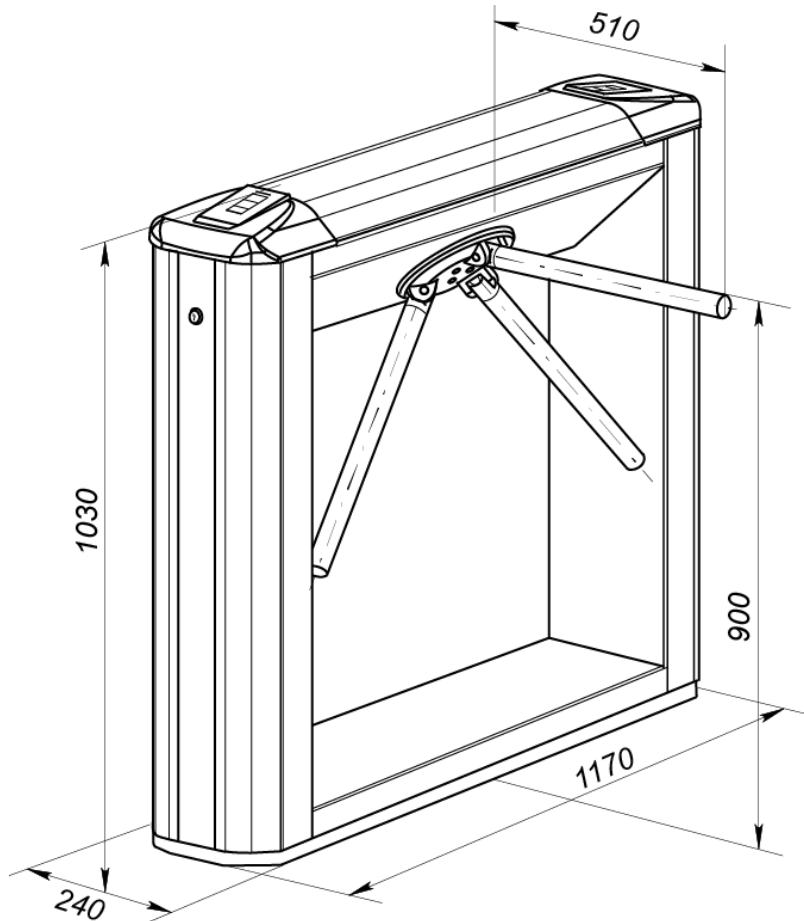

Fig. 1. Overall dimensions of the TB-01.1A turnstile
The turnstile housing is fixed to floor with 4 anchor bolts through holes in the turnstile housing base (2). The overall dimensions of the turnstile housing are shown in Fig. 1.